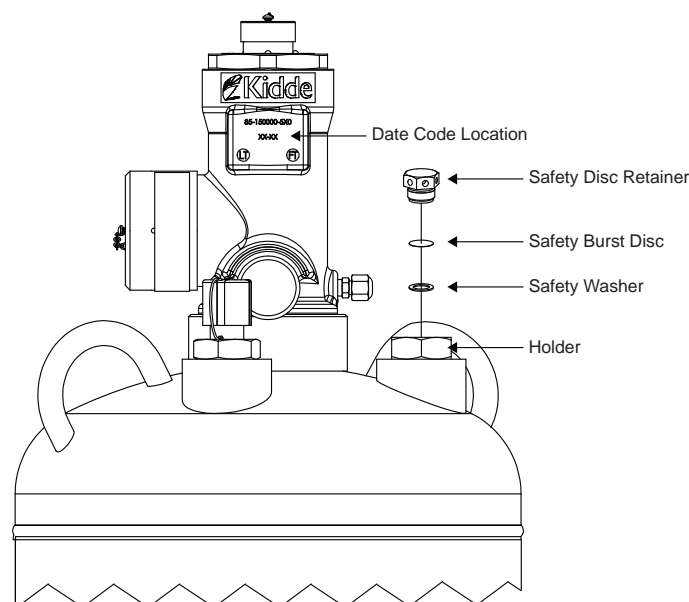
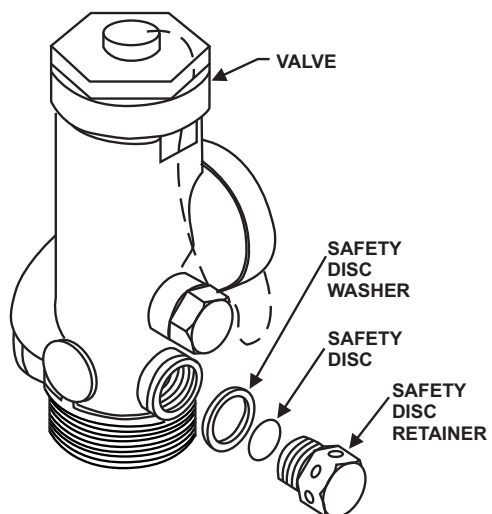

Figure 2. Installation of Safety Burst Disc on Cylinder (Valves Manufactured after April 2014)
Figure 3. Installation of Safety Burst Disc on Valve (Valves Manufactured before May 2014)
Whenever the valve is rebuilt, the Safety Disc Assembly must be replaced. Refer to Figure 2 or Figure 3.
Depending on the manufacture date of the valve, the safety disc is located either on the cylinder shoulder, adjacent to the cylinder valve or on the cylinder valve itself. Valves manufactured after April 2014 have the safety burst disc located on the cylinder shoulder. Valves manufactured before May 2014 have the safety burst disc located on the valve body. For the location of the date code, see Figure 2. Follow these steps to replace the safety burst disc.
1. Remove the safety disc retainer, safety disc, and safety disc washer from the cylinder or valve body. See Figure 2 and Figure 3. Discard the removed components.